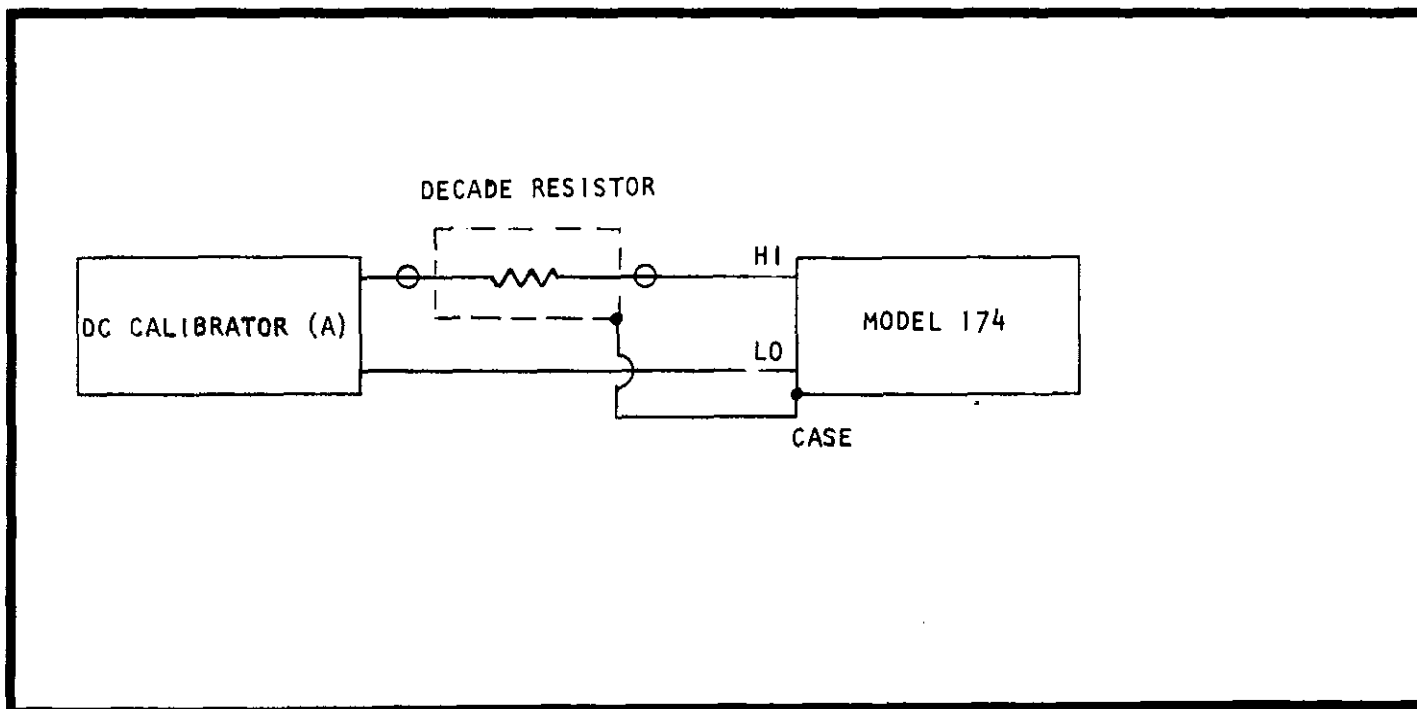

FIGURE 35. Test Circuit For 3 μ A Verification.
- c) Connect the DC Calibrator (A) and series 1M Ω Decade Resistor (D) to the Model 174 input terminals, as shown in Figure 35.
- h) Connect the DC Calibrator (A) and series 10M Ω Decade Resistor (D) to the Model 174 input terminals, as shown in Figure 35.
* NOTE: For the 30 μ A and 300 μ A ranges, a Current Source must be composed of the DC Calibrator (A) and series connected Decade Resistor (D), as in Figure 35.